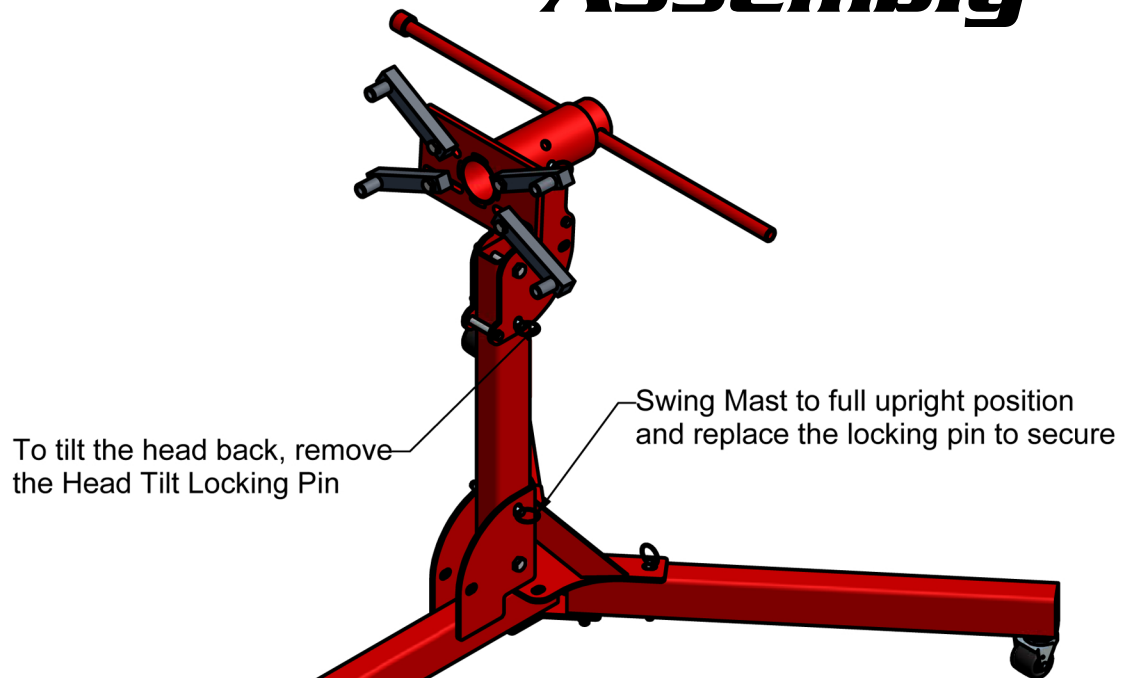

FIGURE 3
6. To tilt the Head back, remove the Head Tilt Locking Pin and tilt the Head back. Reinstall the locking pin to secure (Fig 3 & 4).
1. To tilt the Head back, remove the Head Tilt Locking Pin and tilt the Head back. Reinstall the locking pin to secure (Fig 3 & 4).